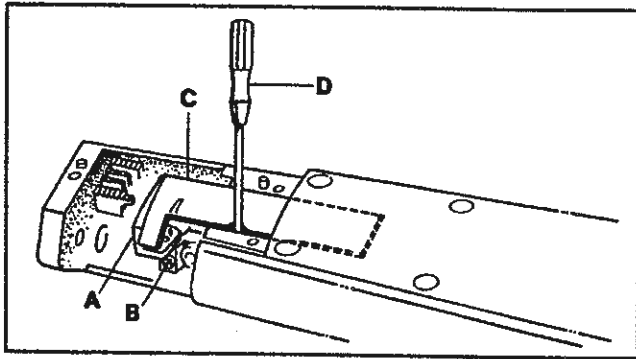

FIG. 11
The looper blade must be set at a 90° angle to the looper shaft. Insert looper (A, Fig. 11) into the looper holder and tighten screw (B). Place the narrow end of looper alignment gauge (C), no. 21227CU, in the feed bar slot. Insert a 1/8" diameter screwdriver (D) in the half circle cutout of the aligning gauge and press the right side of the feed bar slot and also against the looper blade. If the looper blade does not align with the end of the gauge, loosen screw (B) and reposition looper (A). Tighten screw (B).